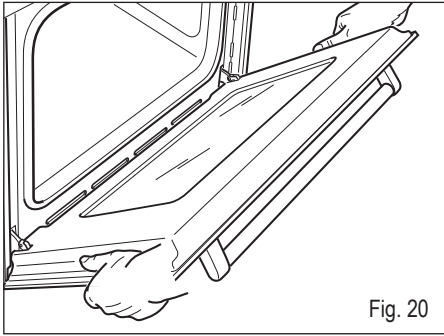
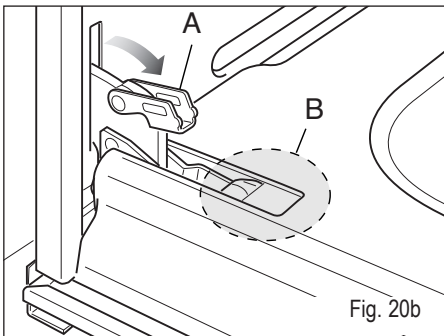

Fig. 20
Fig. 20b
- Open the lever “A” completely on the left and right hinges (fig. 20b).
- Hold the door as shown in fig. 20.
- Gently close the door (fig. 20) until left and right hinge levers “A” are hooked to part “B” of the door (fig.20b)
- Hold the door firmly (fig. 20).